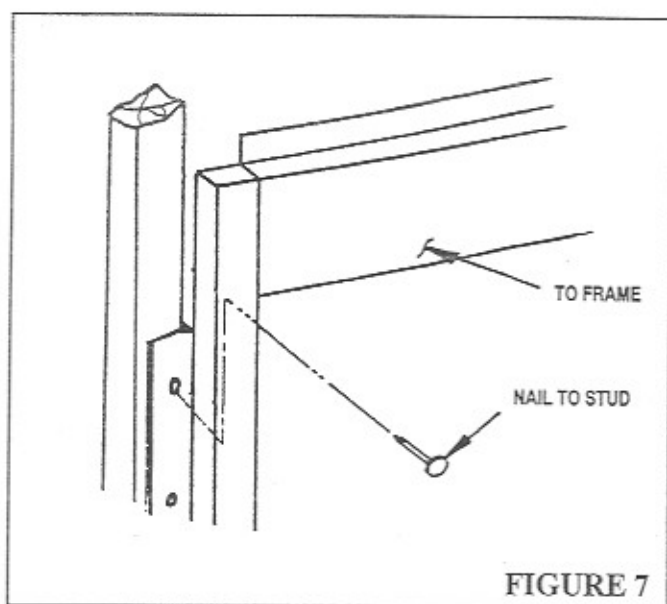

FIGURE 7
**STEP 2:** Position the fireplace into the framing. Secure the fireplace to the framing at the mounting flanges as illustrated in Figure 7.